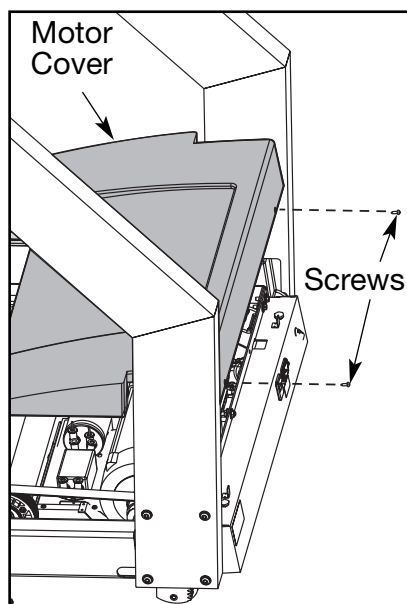

Figure 1
- Lift the motor cover and remove it from the treadmill. Set the cover and screws aside. See Figure 1.